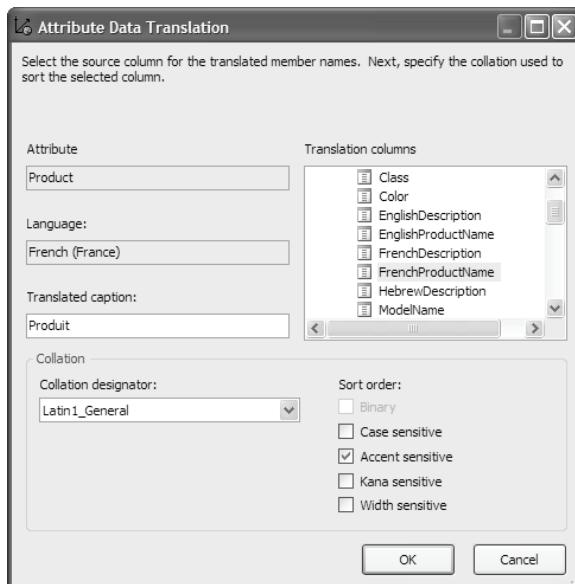

Figure 12.31 Attribute member translations are data-driven.
- Click on the translation cell found at the intersection of the Product attribute and French translation column. A command button with a triple-dot caption (...) appears in the cell. Click on the button to open the Attribute Data Translation dialog (Figure 12.31).
Tip As you can see in Figure 12.31, UDM translates the member *Caption* property. When requesting the localized member names from ADOMD.NET remember to request the *Caption* property. It is the *Caption* property which is localized, not the member *Name* property.